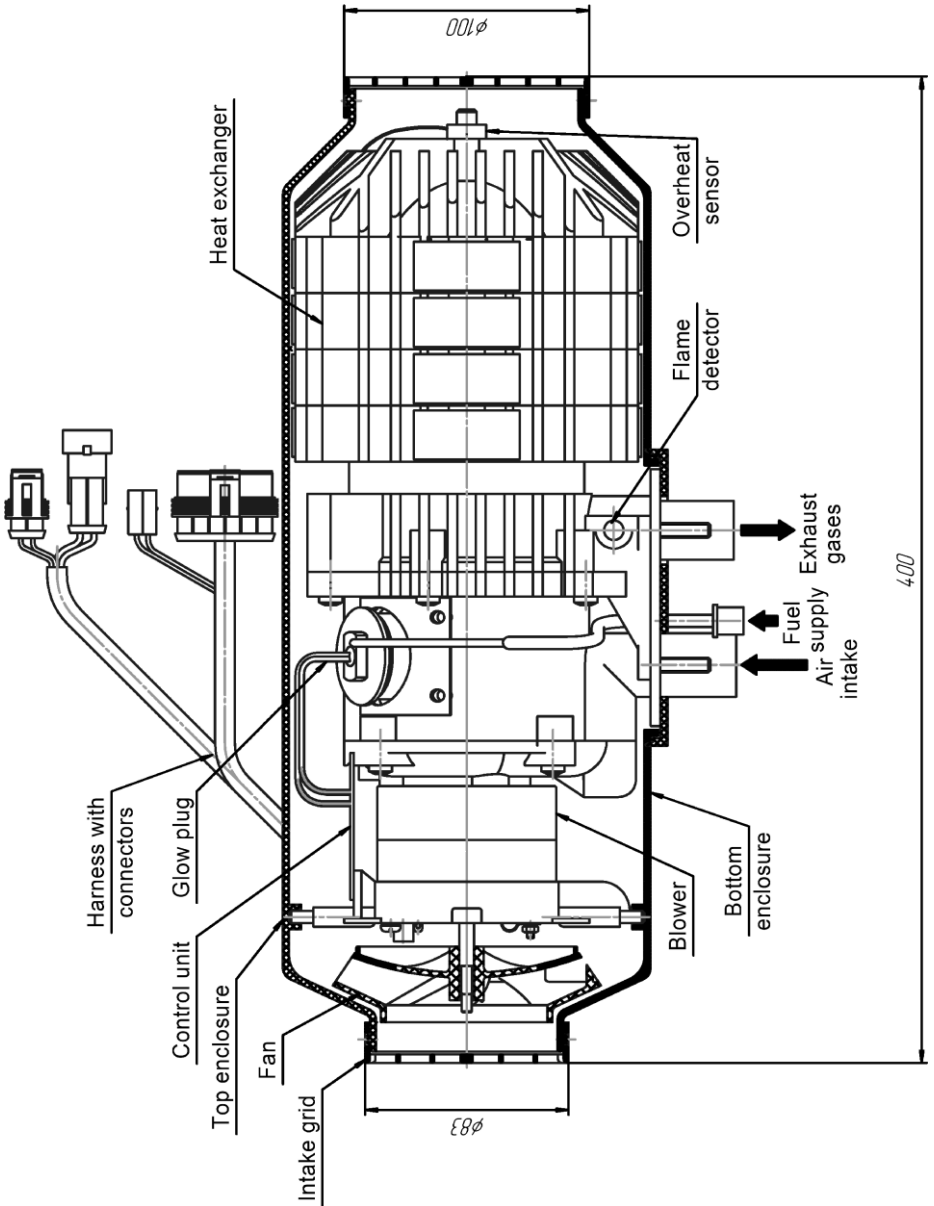

Figure 4.2 – Basic Heater Components
- Heating device (See Figure 4.2 for basic components thereof);